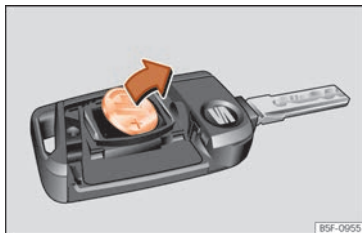

Fig. 146 Vehicle key: removing the battery.
- Extract the battery from the compartment using a suitable thin object » **Fig. 146**.
- Place the new battery in the compartment as shown » **Fig. 146**, pressing in the opposite direction to that shown by the arrow » **⚠**.